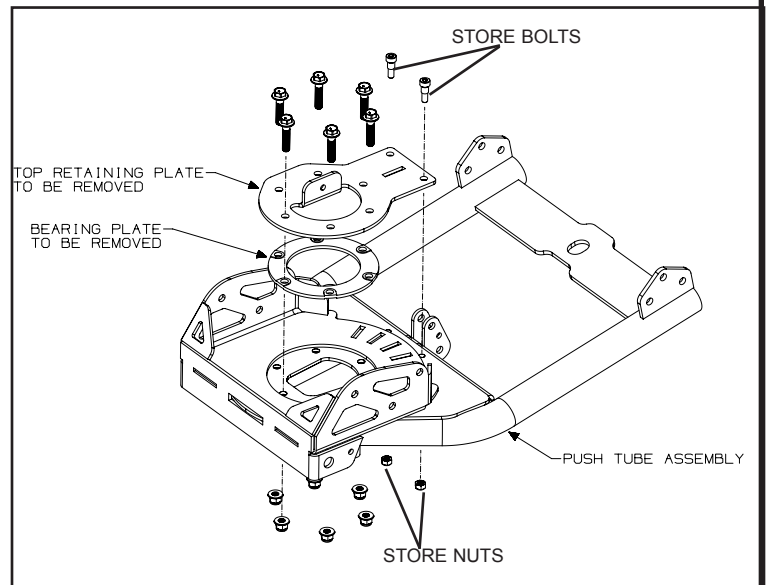

Figure 5
5. Figure 5 shows the removal of the retainer and bearing plate from the push tube assembly and ready to receive the Pro-Pivot.